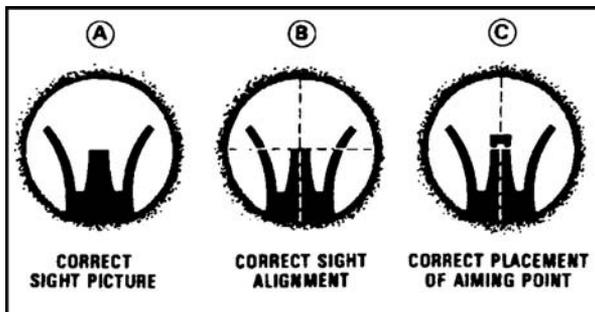

Figure 071-311-2030-2. Sight pictures
4. Establish the sight picture (figure 071-311-2030-2).
- (1) Center the top of the front sight post in the center of the rear sight (A in figure 071-311-2030-2).
- (2) Draw an imaginary horizontal line through the center of the rear aperture so that the top of the front sight post touches the line (B in figure 071-311-2030-2).